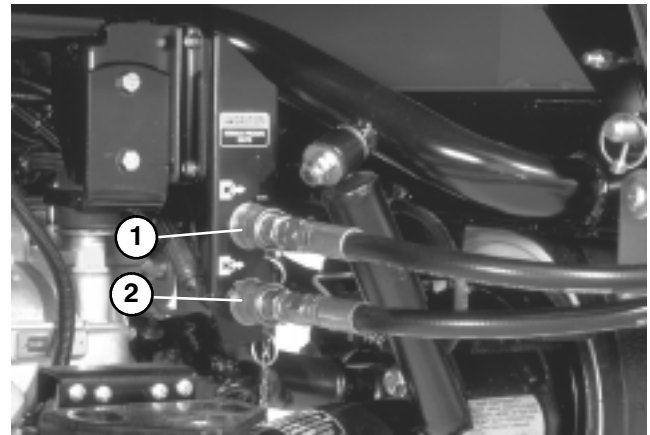

Figure 11
2. Clean dirt from quick couplers (Fig. 11) before connecting. Dirty couplers can introduce contamination to the system. After cleaning, attach both quick couplers on the topdresser to the Workman. The hoses are marked "A" and "B", match them to the quick couplers when installing. Assure both quick couplers are full engaged.